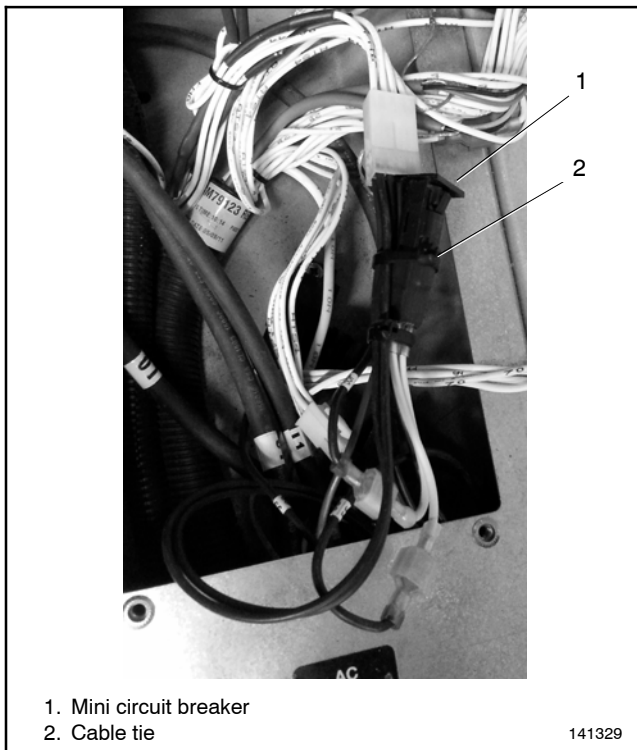

Figure 4-13 Mini Circuit Breaker (for replacing original controller with revised controller only)
- e. Use a cable tie to secure the mini circuit breaker to the harness as shown in Figure 4-13.
11. Install the controller onto the junction box using the two (2) screws removed in step 5.